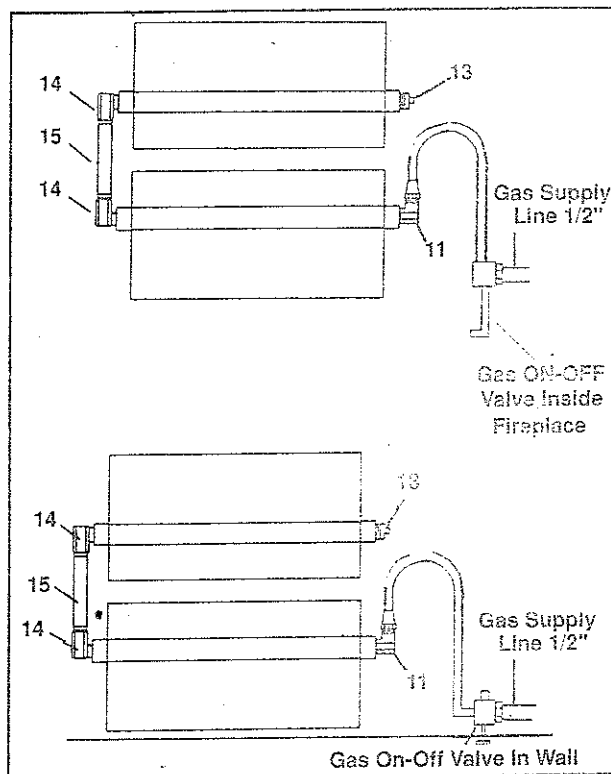

Figure 4. Gas line installation-Masonry fireplace.
F. Masonry fireplaces. A 1/2 inch gas supply line must be provided to the firebox. Most installations require drilling an access hole through the masonry wall. The supply line should be secured and sealed by mortar within the access hole. The supply line should also have an on-off valve either in the wall or inside the fireplace. (See Figure 4.)
- Place the two burner pans (Part #8) back to back and attach the two street elbows (Part #14) to the same side on each burner pan using pipe dope. (See Figure 1 and Figure 4.)
- Determine if the fireplace has a right or left-hand gas line feed. Place the side of the burner system with the elbow and pipe nipple assembly away from the gas supply line. Attach the 3/8" Flared Orifice Elbow (Part #11) to the end of the burner system which is closest to your fireplace valve (shown in Figure 4). This fitting is specially made for Natural Gas Installations ONLY. Do not use for L.P. or Propane gas applications.
- Attach the burner plug (Part #13) to the opposite burner as shown in Figure 4.